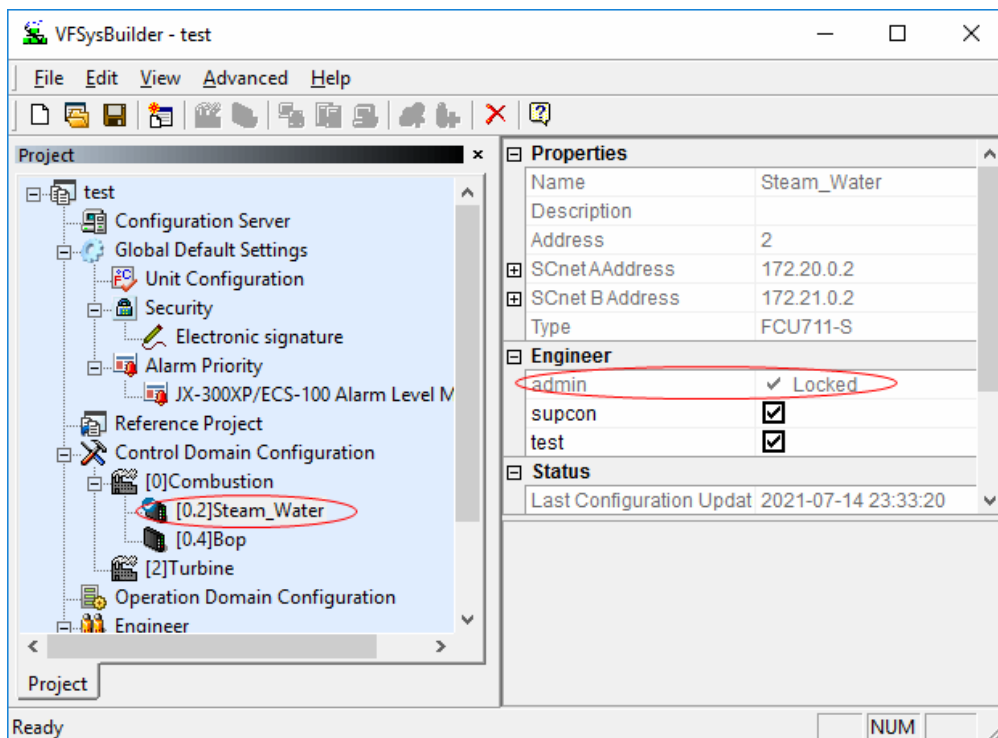

Figure 4-5 Information of the locked control station
- Main configuration information of locked control stations cannot be modified, but the authority of non-locked engineer to the control station can be modified. As shown in Figure 4-5, select the locked control station, and the configuration information cannot be modified except for the authority of non-locked engineer to the control station.